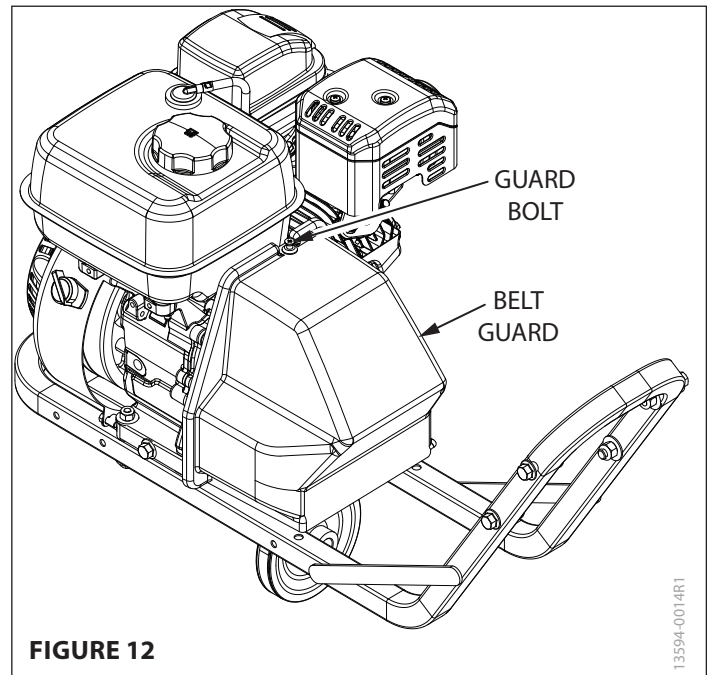

FIGURE 12
3. Remove belt guard as follows: **SEE FIGURE 12**